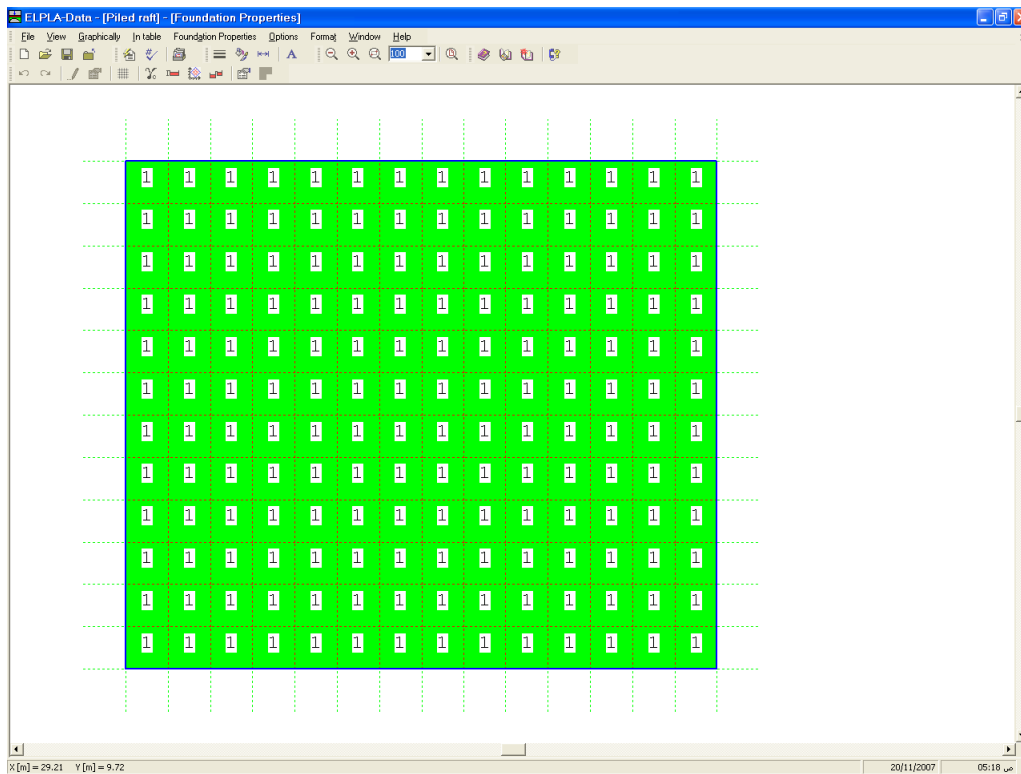
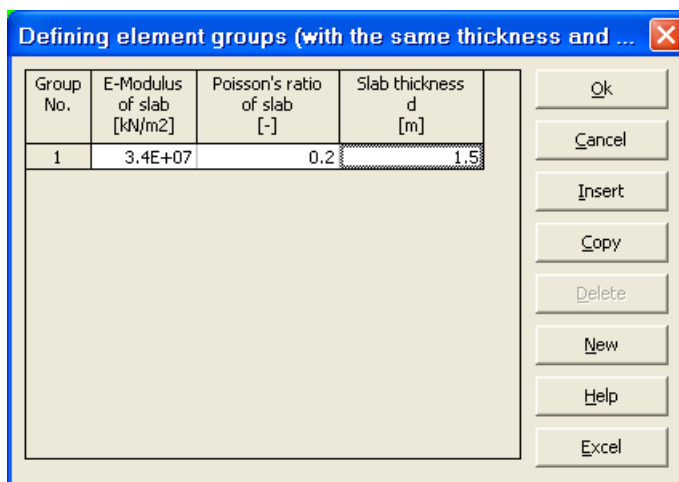
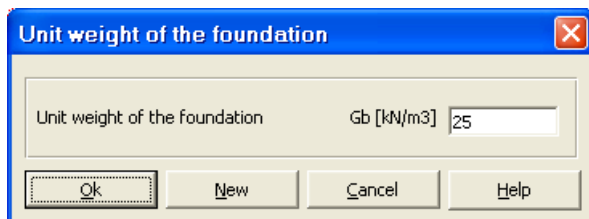
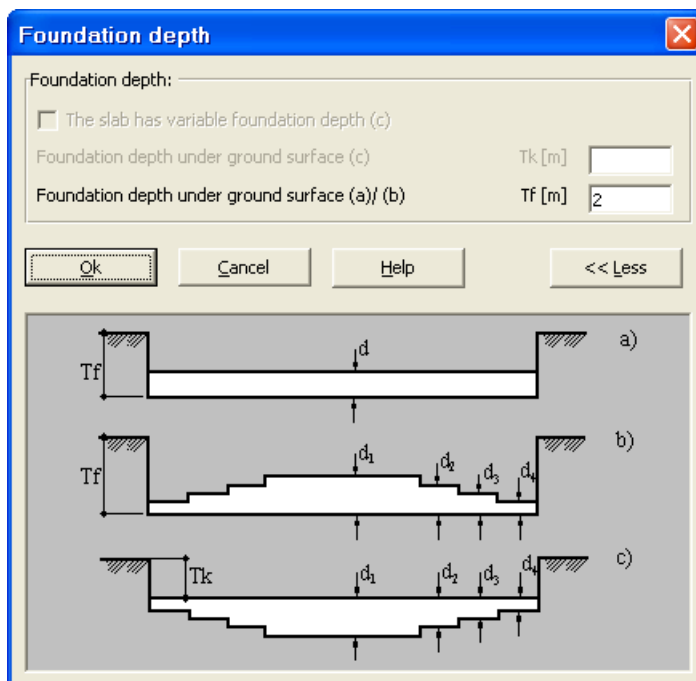

Figure 12-24 "Foundation properties" embedded program
Figure 12-25 "Defining element groups" list box
Figure 12-26 "Unit weight of the foundation" dialog box
Figure 12-27 "Foundation depth" dialog box
To define the foundation properties, choose "Foundation properties" command from "Data" menu of *ELPLA-Data*. The following embedded program in Figure 12-24 appears with default foundation properties. The data of foundation properties for the current example, which are required to define, are foundation material and foundation thickness. Any other data corresponding to foundation properties in the program menus are not required. Therefore, the user can take these data from the default foundation properties.
- Choose "Element groups" command from "In Table" menu in the window of Figure 12-24. The following list box in Figure 12-25 with default data appears. To enter or modify a value in this list box, type that value in the corresponding cell then press "Enter" key. In the list box of Figure 12-25, enter E-Modulus of the foundation, *Poisson's* ratio of the foundation and foundation thickness
- Choose "Unit weight of the foundation" command from "Foundation properties" menu in the window of Figure 12-24. The following dialog box in Figure 12-26 with a default unit weight of 25 [kN/m³] appears. Let the default value as written in the edit box "Unit weight of the foundation"
- Choose "Foundation depth" command from "Foundation properties" menu in the window of Figure 12-24. The following dialog box in Figure 12-27 appears
- Choose "Save foundation properties" command from "File" menu in Figure 12-24 to save the foundation properties
- Choose "Close foundation properties" command from "File" menu in Figure 12-24 to close the "Foundation properties" embedded program and to return to the main window of *ELPLA-Data*